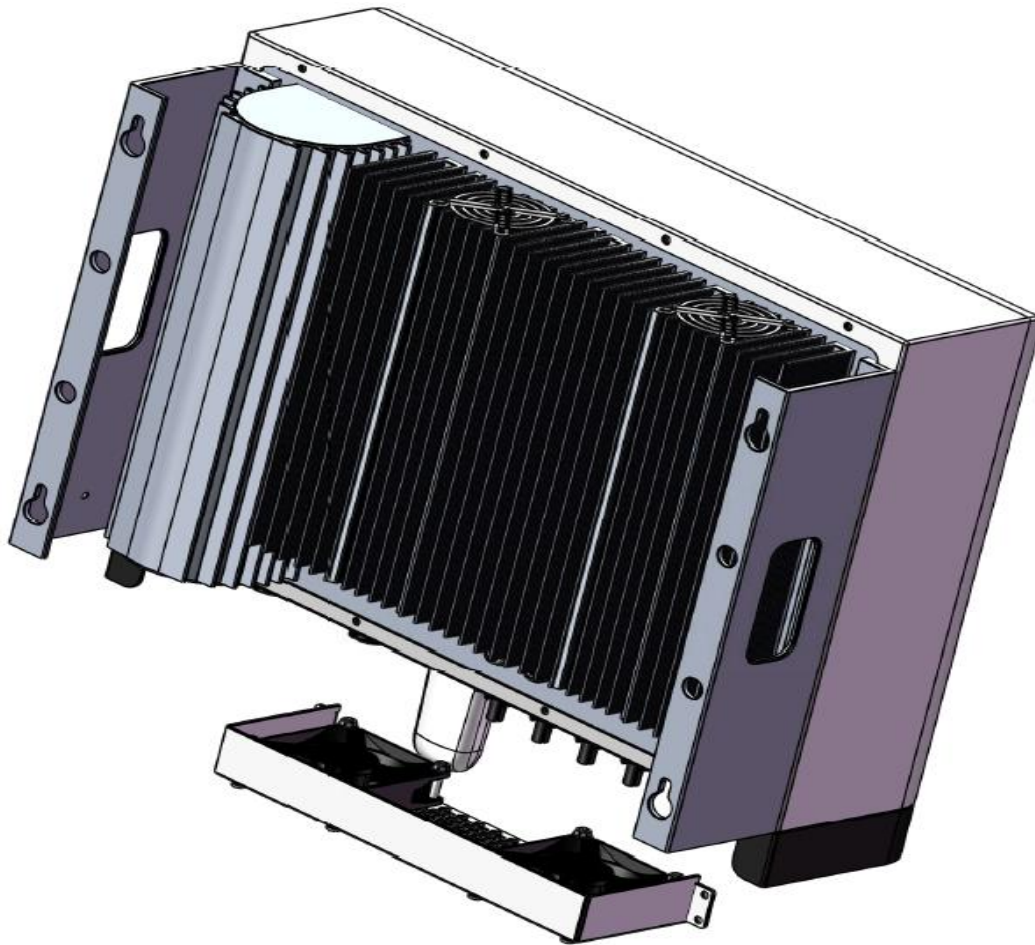

Figure 7-1 Remove the screws from the fan assembly
Step 5: Loosen the screw fixing the fan assembly, as shown in Figure 7-1
Step 6: Remove the fan assembly, as shown in Figure 7-1